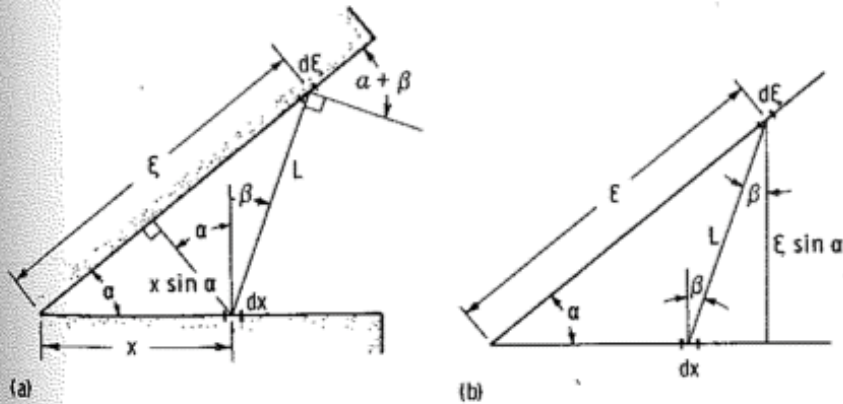

FIGURE 5-4 Configuration factor between two strips on sides of wedge groove. (a) Wedge-shaped groove geometry; (b) auxiliary construction.
**EXAMPLE 5-3** Consider an infinitely long wedge-shaped groove as shown in cross section in Fig. 5-4. Determine the configuration factor between the differential strips  $dx$  and  $d\xi$  in terms of  $x$ ,  $\xi$ , and  $\alpha$ .